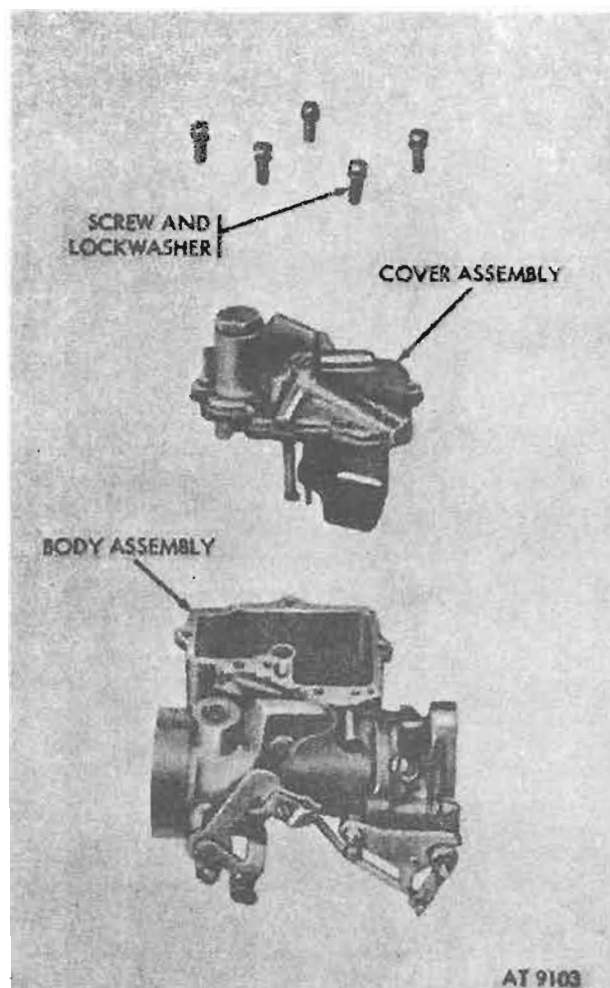

Figure 5-7. Carburetor cover and attaching screws.
(1) Remove five cover attaching screws and lockwashers and lift cover from body (fig. 5-7).